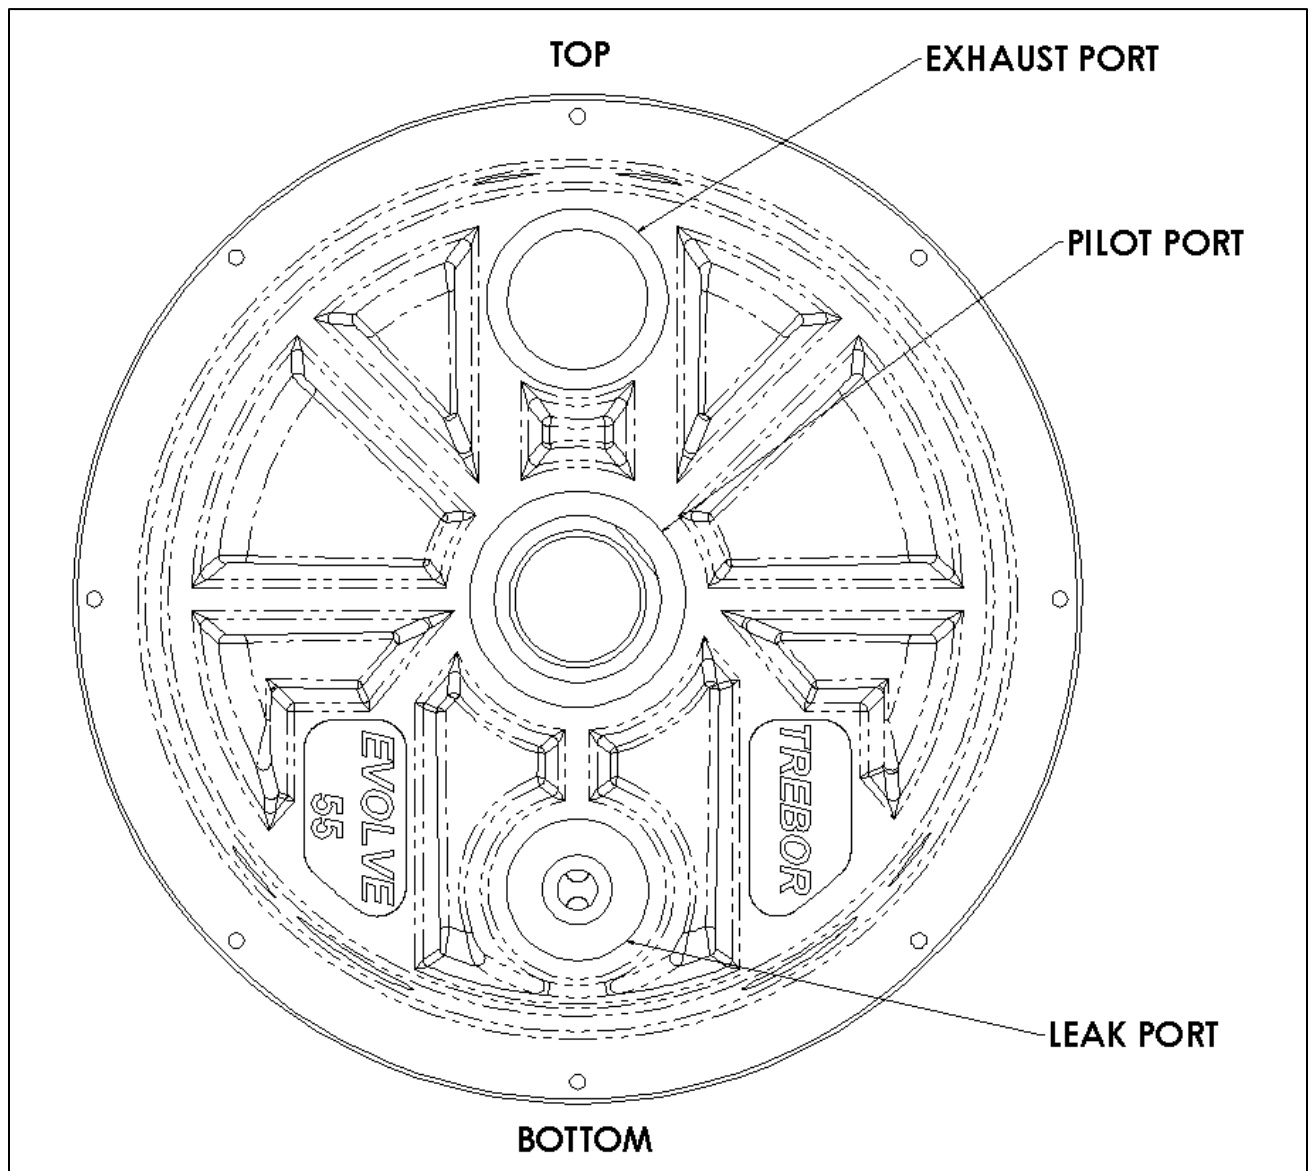

Figure 4-6: Port Location and Alignment of Pump Head
- For the following instructions, see Figure 4-6 for port locations and top/bottom alignments.